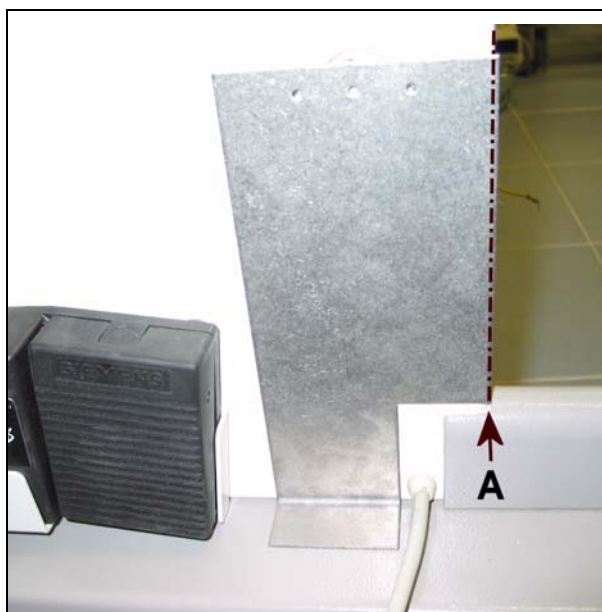

Fig. 2
Systems with serial number < 01417 have been supplied with the round fluoroscopy foot switch. The holder for this foot switch at the basic unit is located close to the right edge. Fig. 2 shows how to place the drilling template for systems with serial number > 01417. For systems with serial number < 01417 place the drilling template offset by 15 cm to the left of the edge (A/Fig. 2).
- Place the drilling template offset by 15 cm to the left of the edge (A/Fig. 2).
- Place the drilling template on the edge (A/Fig. 2) as shown in Fig. 2.